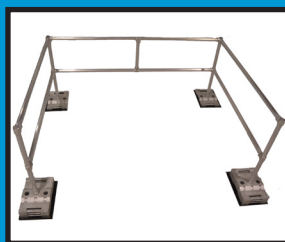

Figure 9: Complete RGC-KIT-09
7.9 Once the system is complete (see figure 9), a second check of each set-screw should be performed, and once torqued, each set-screw should be marked with the blue crayon (or other marking system) to help facilitate inspection and provide indication in the event of any tampering. The warning sticker should be placed in a visible location on the top rail with the install date and reference number to assist with inspections.